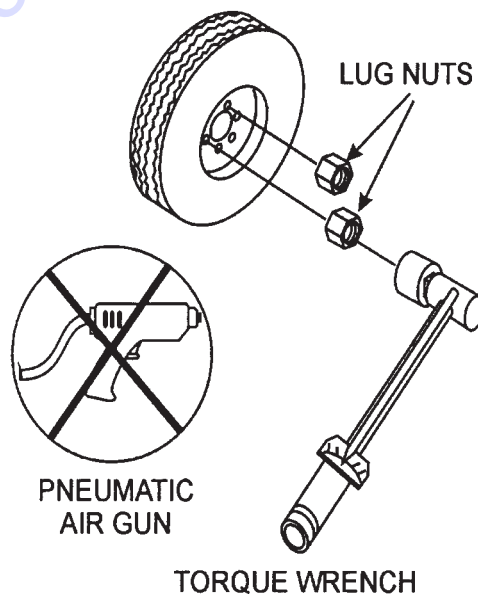

Figure 56. Wheel Lug Nuts Tightening Sequence
2. Torque all lug nuts in sequence (Figure 56). **DO NOT** torque the wheel lug nuts all the way down. Tighten each lug nut in 3 separate passes as defined by Table 18.